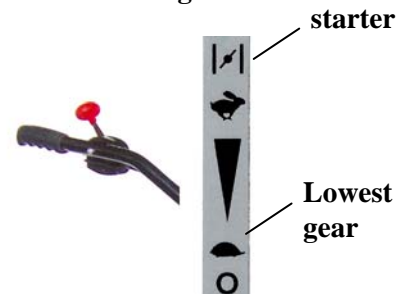

Fig. 10
- Put accelerator lever in starter (**fig. 10**, lever with correspondant sign) position ;
- Once the engine starts – put the accelerator lever (**fig. 10**) to the lowest gear position and let the engine warm up.